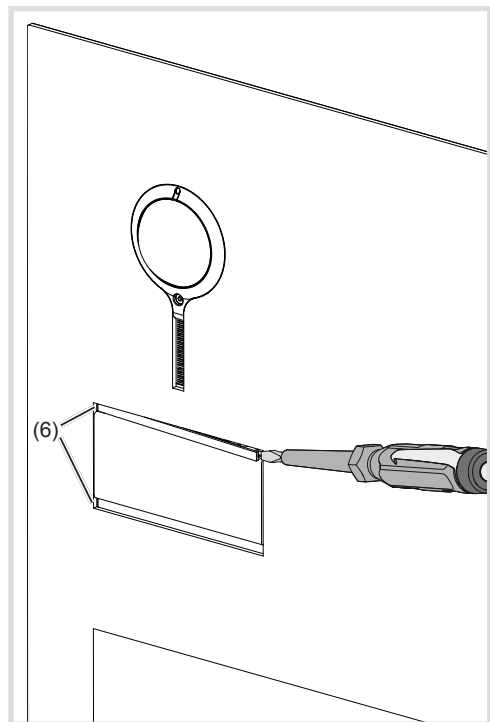

Figure 17: Removal of cover strips
- Lever up the interlocking cover strips (6) at the top and bottom using the screwdriver and remove (Figure 17).